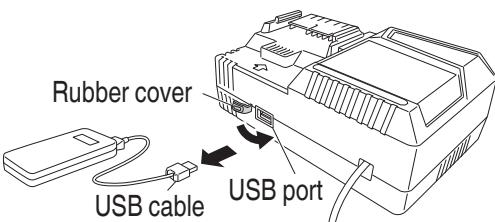

Fig. 21
(3) When charging is completed
- Unplug the power cord from the electrical outlet. (**Fig. 21**)